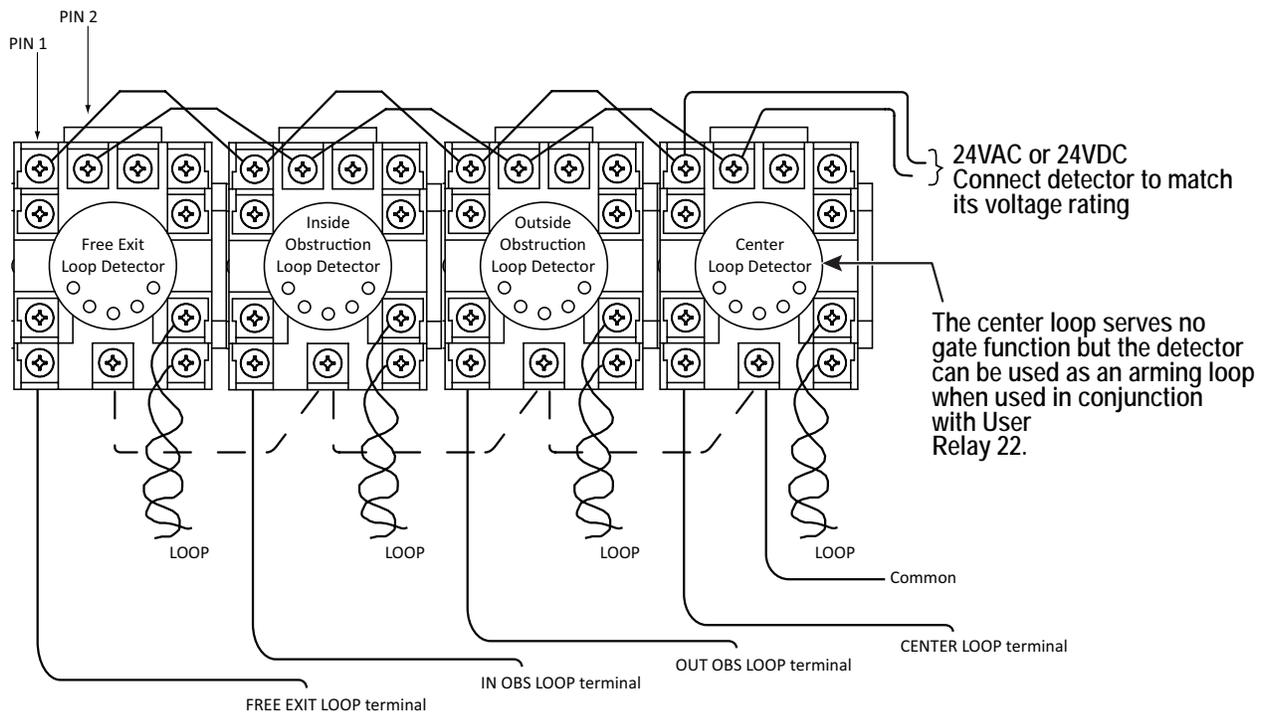

Figure 59. Standard 11-Pin Box Type Vehicle Detector
1. If there is sufficient space, install the sockets in the control box; if not, then install them in a separate external housing. Figure 59 is for general reference only.
4. If multiple detectors are used, route the power wires and common wire from socket to socket (daisy chaining) rather than individually running each wire to the same location. See Figure 59. The only wires that are separate are the output wire to the Smart DC Controller and the detector loop input wires.